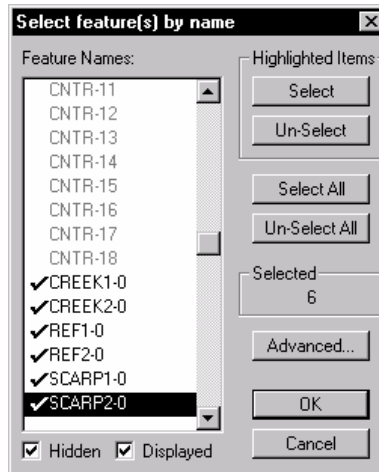

Figure 8.11: Select Feature(s) by Name Dialog
5. Edit | Select Feature(s) | By Name. Select by double clicking the items shown in the Figure 8.11. Press OK.